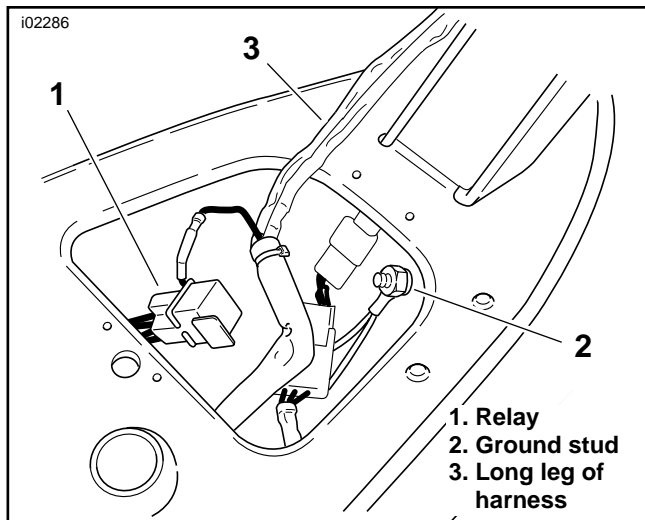

Figure 5. Install the Wiring Harness (FXDWG Shown)
11. See Figure 5. Install the wiring harness. Place the relay (1) in the opening in the seat pan, and route the long leg of the harness (3) along the frame backbone.
13. Connect the black ground wire (2) with the ring terminal to the ground stud under the seat, or at any good electrical ground point. Secure the kit harness to the adjacent harnesses with cable straps (Item 16) from the kit.